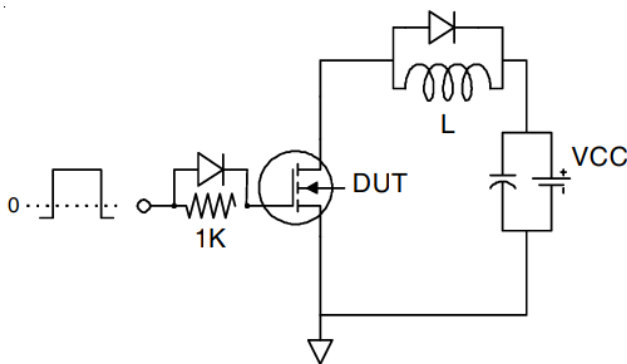

Fig 18a. Gate Charge Test Circuit
3. Equation below based on circuit and waveforms shown in Figures 18a, 18b.